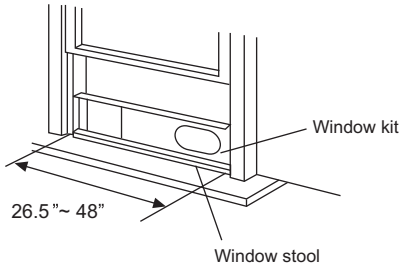

Fig.9
2. Attach the window slider kit to the window stool. Adjust the length of the window slider kit according to the width of window, short the adjustable window kit if the width of window is less than 27 inches. Open the window sash and place the window slider kit on the window stool. Fig.9